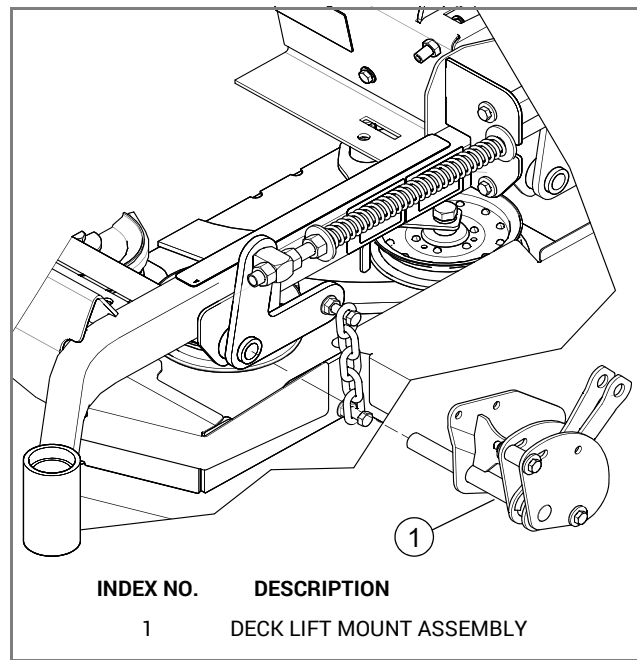

FIG. 4
7. Grease the lift pivot shaft and then insert it into the pivot tube of the deck lift pedal. FIG. 4